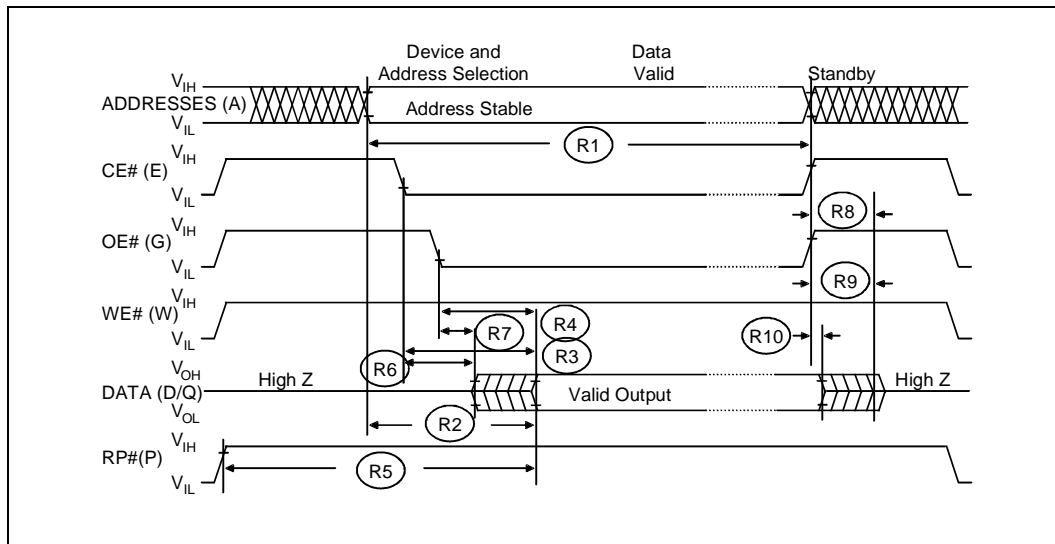

Figure 7. AC Waveform: Read Operations
1. See Figure 7: *AC Waveform: Read Operations*.